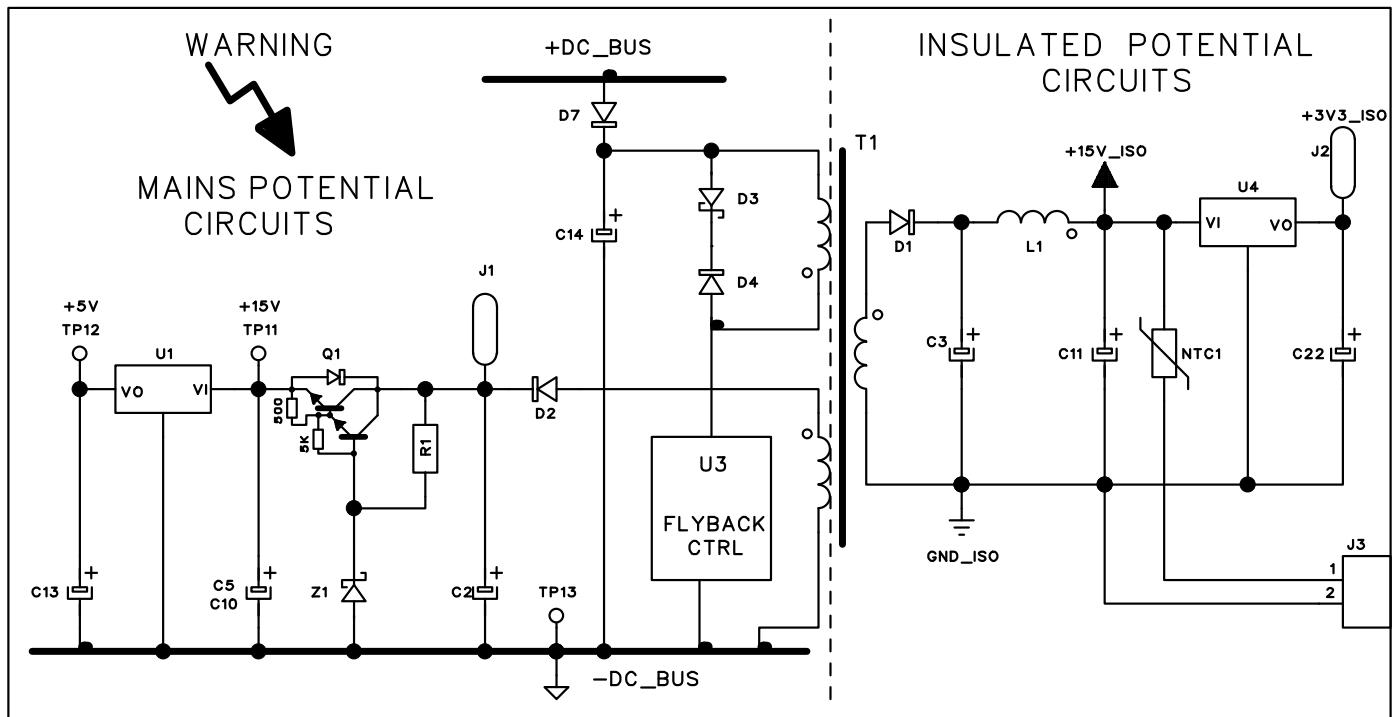

Fig. 2.3.2
These voltages are measurable on the connectors J2, J3 and on the test points J1, TP11, TP12, TP13 on power board (45), as indicated in Fig. 2.3.2.
- ◆ If the voltage remains at +320 Vdc, check the boost converter circuits (U5, U7, Q5, Q6, D11, D12, etc.) and the voltages on TP11 and TP12 of power board (45), as indicated in Fig. 2.3.2 (boost converter power supply circuits).
- ◆ Replace power board (45).
- Power board (45), test points TP11(+) , TP12(+) and R32 SHUNT terminal or TP13(-) = voltages as indicated in Fig. 2.3.2 (boost converter circuits power supply).
- Power board (45), connectors J2 and J3 = voltages as indicated in Fig. 2.3.2 (inverter circuits power supply).
- ◆ With the power source off, temporarily disconnect connectors J3 and J7 from power board (45). Power up the power source and repeat the measures on power board (45). If not correct, locate the faulty components, on power board (45), based on the diagram in Fig. 2.3.2 and replace them. If correct search for the anomaly cause in the fan (44) or in the panel board (48).